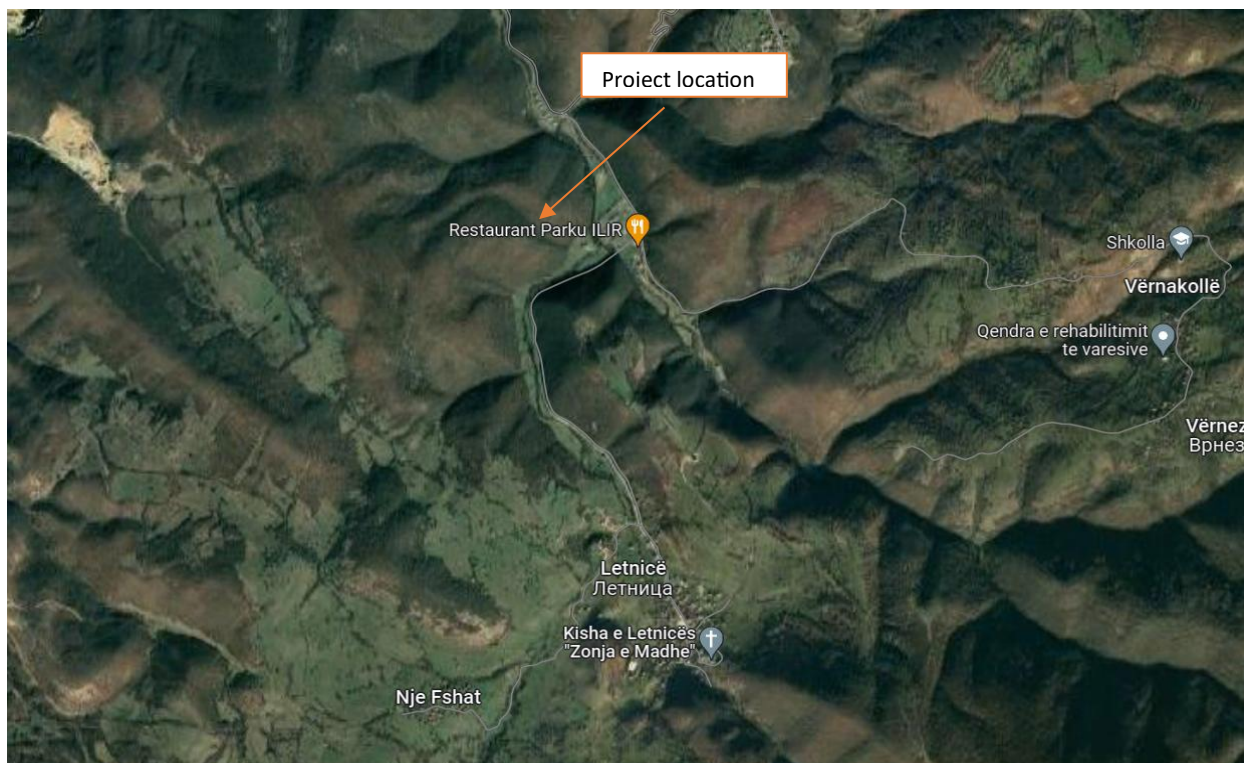

Figure 4. Micro location of the WTP in relation with the village Letnica
- Figure 4: Micro location of the WTP in relation with the village Letnica